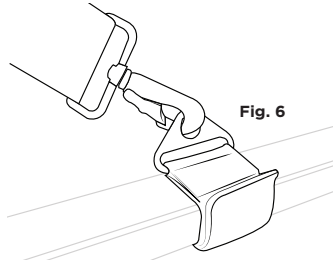

Fig. 6
1. Ensure the ladder is closed and the long strap is secured around both rails of the ladder. [fig. 6]